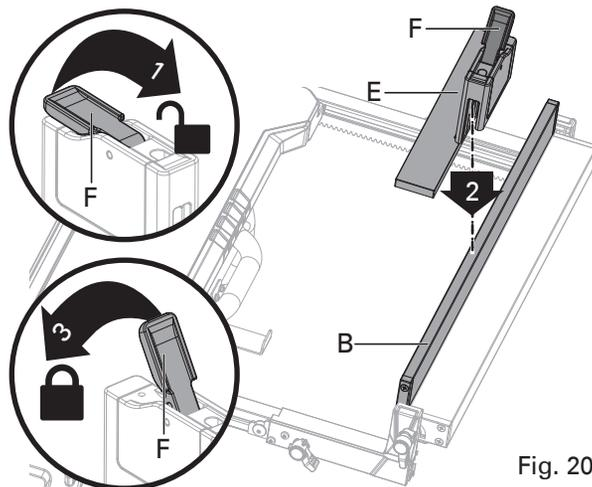

Fig. 20e
- Pull up the lock lever (F) and align the slot of sub fence assembly with the narrow fence (B), then push the sub fence assembly down, lock it in place with pushing down lock lever (F). (Fig. 20e)